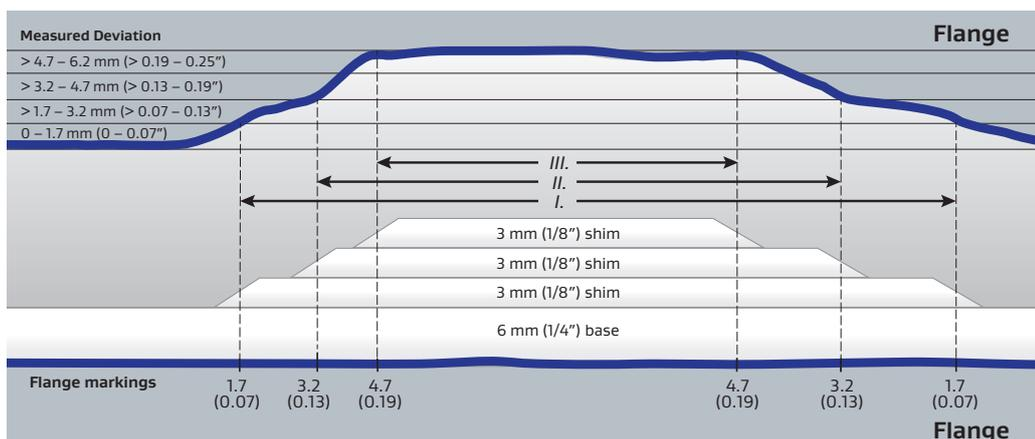

FIGURE 6. Flange deviation example with 6 mm (1/4") base tape
Measure and mark flange surface deviation around full flange circumference to within ± 0.1 mm, for use in selection of gasket thickness (Section 1.4) and shimming requirements (Section 1.5). Figure 6 illustrates an example of completed flange deviation markings and associated shimming.
Place a separator between the flanges to avoid glass-to-glass contact while measuring flange deviation. Separator material must be flat and uniform thickness, non-compressible under the weight of the top flange placement, and thin / flexible enough to conform to bottom flange deviations during measurement (example: fiber board). Close and align the flanges without compressive load beyond equipment weight. Around the entire flange circumference, use a feeler gauge to measure the deviation between the top / removable flange and the non-compressible separator, to an accuracy of ± 0.1 mm (± 0.01 "). It may be necessary to carefully manipulate the separator with the feeler gauge, so that all flange deviation can be measured from one side of the separator. On the stationary / bottom flange, mark all start and end points where the prescribed thickness of feeler gauge could be inserted. Refer to required tools for specific feeler gauge requirements. Refer to Table 2 and Figure 6 for additional detail, based on use of a 6mm base layer. Be sure to mark a flange reference mark on both flanges to allow for flange realignment at assembly. Remove separator.
Using the markings on the flange of irregularities measured in Section 1.2, use the 3 mm (1/8") GORE® Series 1000 shim tape to perform the following shimming process. See example irregularities (I), (II) and (III) and associated flange markings in Figure 6.
- Start the shim layer by placing the skive cut tape end on the previous layer of gasket tape, with the skive ramp centered on the beginning deviation mark on the flange. See Figure 6.
- Skive cut the second end of the already placed shim layer per Section 2.3, with the skive ramp centered on the ending deviation mark on the flange. See Figure 6. Be sure to remove the excess shim tape beyond the outside of the skive cut.